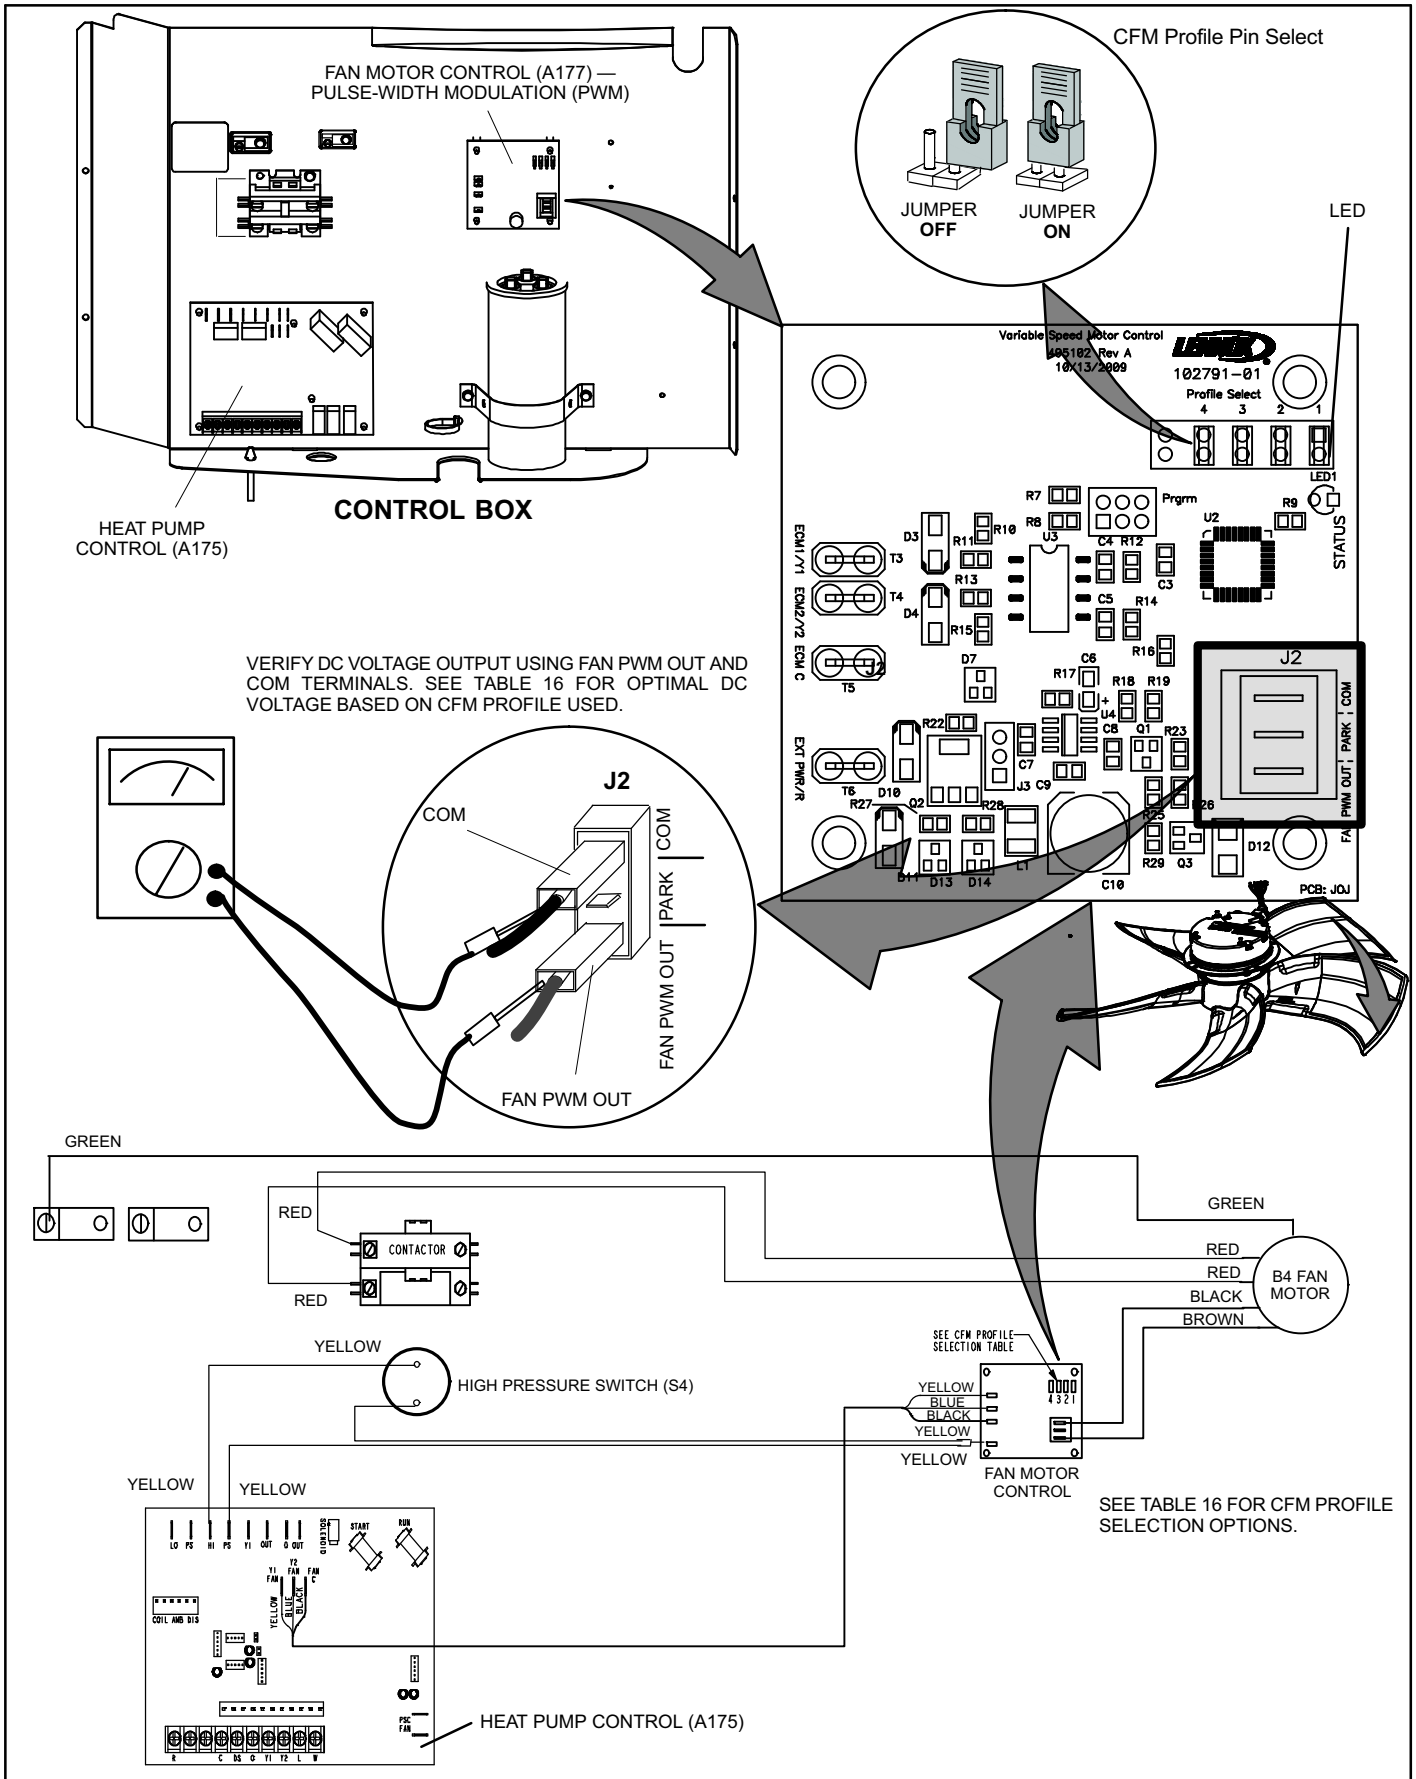

Figure 34. Fan Motor Control, Wiring, Jumper Settings, Testing and LED Location
3. Test DC voltage output on the fan motor control's J2 terminals (see figure 34) while under full load and verify the voltage read to the voltage listed in table 16 for the applicable size unit.